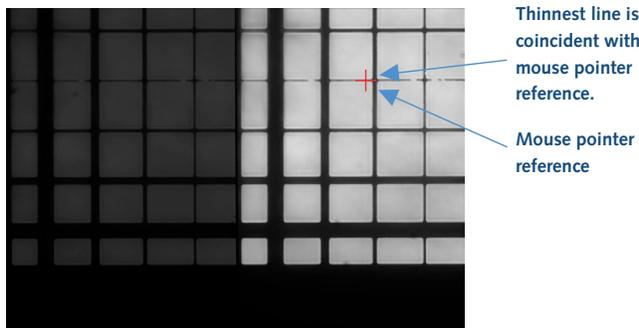

Figure 20. Images of the grid (DV2 Mode) with an edge of the grid in the field of view. The right image is now coincident with the reference point.
7. After moving the right image down to the correct position (**Figure 20**), you are within a few pixels of having the two DV2 images aligned and registered to each other.